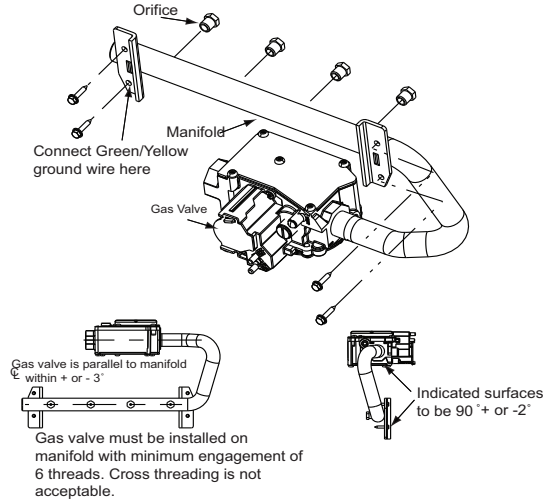

Fig. 2 – Manifold Assembly
- Support the manifold and remove the four (4) screws that secure the manifold assembly to the burner box and set aside.
- Note the location of the green/yellow wire ground wire for re-assembly later, see Fig. 2.